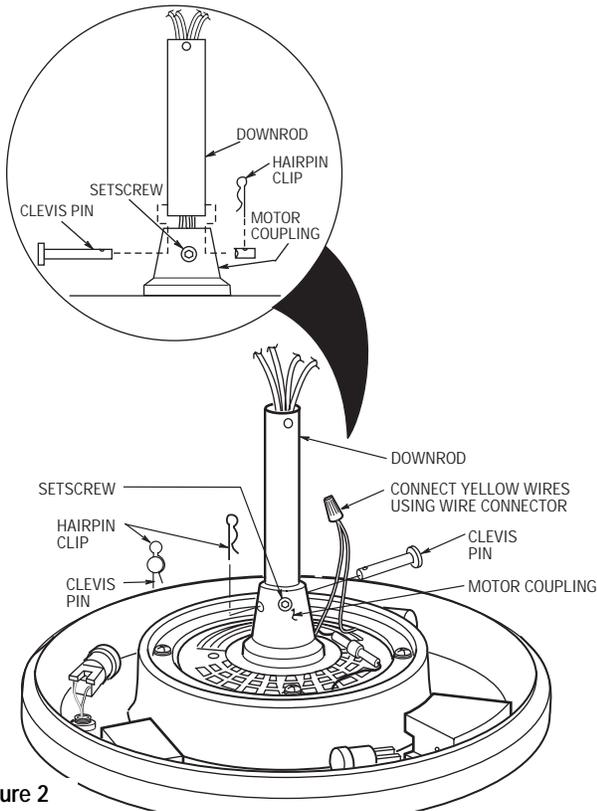

Figure 2
3. Using a wire connector (supplied), connect the yellow upright lead (supplied) to the yellow wire from the motor (Figure 2).
5. Fold the wires from the downrod into the slot in the motor coupling. Then slide the downrod down the wires and seat the downrod in the motor coupling (Figure 2).
- 6. Align the clevis pin holes in the downrod with the holes in the motor coupling. Install the clevis pin and secure with the hairpin clip (Figure 2). The clevis pin must go through the holes in the motor coupling and the holes in the downrod. Push the straight leg of the hairpin clip through the hole near the end of the clevis pin until the curved portion of the hairpin clip snaps around the clevis pin. The hairpin clip must be properly installed to prevent the clevis pin from working loose.
- 7. Install the setscrew (supplied) in the motor coupling and tighten using the 5/32" setscrew wrench (supplied) (Figure 2).